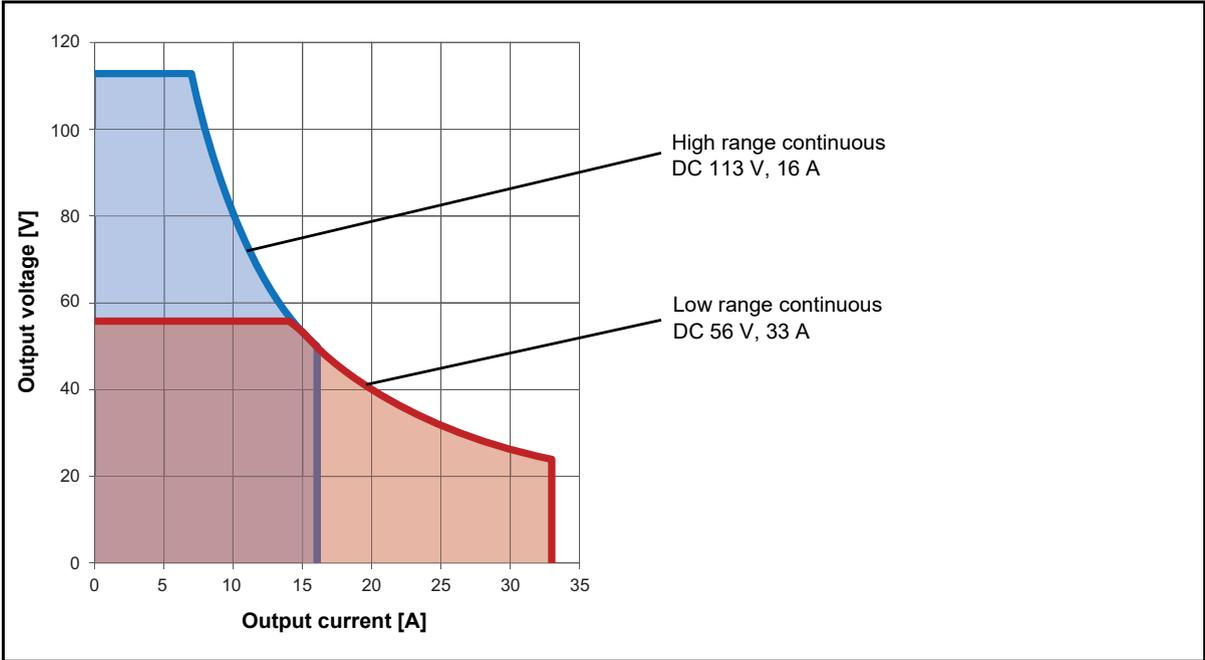

Figure 15-3: Permitted operating range 3 x DC 113 V 16 A
1. See Figure 15-3: "Permitted operating range 3 x DC 113 V 16 A" on page 222